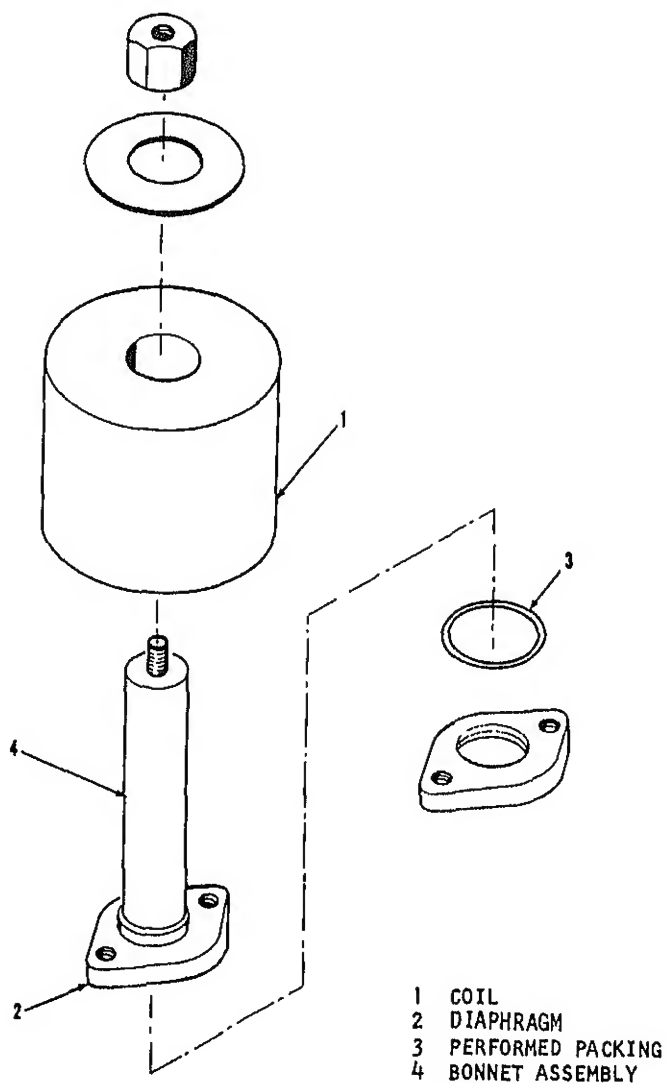

Figure 6-3. Solenoid valve, exploded view
a. General. Replaceable parts are the coil bonnet assembly, diaphragm and the preformed packing. See figure 6-3.
(1) Remove electrical connector from solenoid valve leads.
(2) Remove nut on top of valve housing. Lifting housing and coil assembly from bonnet assembly.
(3) Remove coil from housing.
(4) Install coil bottom plate with edge upward.
(5) Install lower coil sleeve with flange at bottom. Install coil with lead exits at bottom.
(6) Install coil spring with flat edges upward and upper coil sleeve with